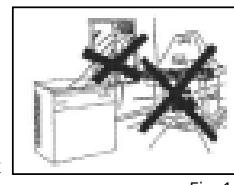
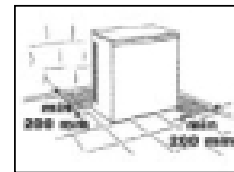

Fig 12.
Fig 14.
- e) machine is away from sources of heat and in a sufficiently ventilated area. A distance of at least 20cm must be allowed between the sides, back and the walls of the machines (Fig. 12, Fig. 14).